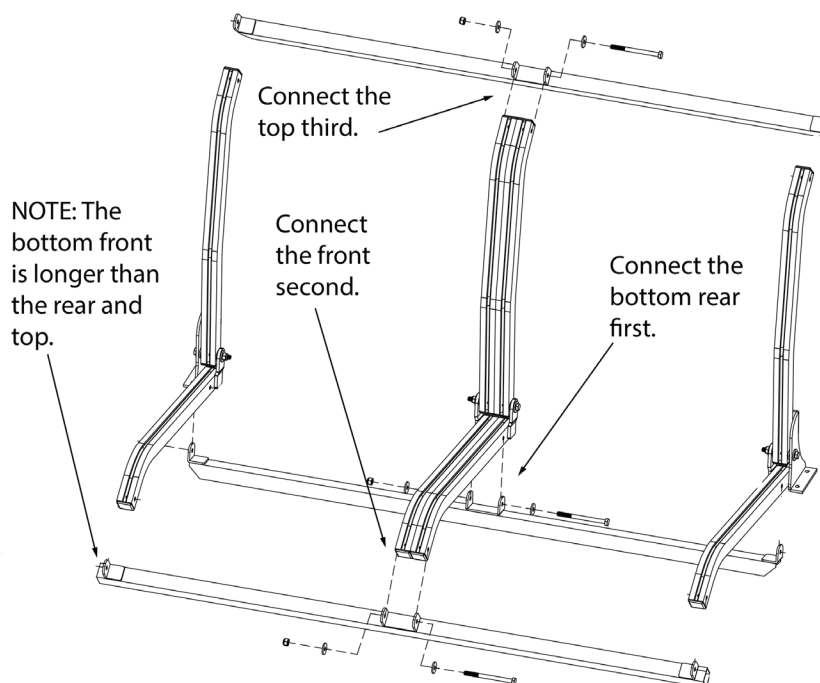
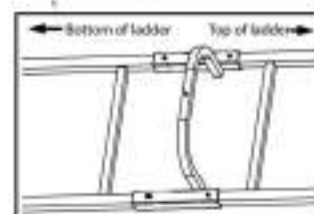

Figure 27
Figure 34-B
STEP 12: Install the bottom rear seat spreader bar by placing the middle seat frame in the center of the bracket and bolt together using one (1) $\frac{1}{4}$ " x 3-1/4" bolt, two (2) washers and one (1) nut as shown in Figure 27. Do not tighten nut yet. Next, install the bottom front seat spreader bar by placing the two (2) middle seat frames in the center of the bracket and bolt together using one (1) $\frac{1}{4}$ " x 3-1/4" bolt, two (2) washers and one (1) nut as shown in Figure 27. NOTE: This spreader bar is longer than the other two. Do not tighten nut yet. Next, install the top seat spreader bar by placing the top of the two (2) middle seat frames in the center of the bracket and bolt together with one (1) $\frac{1}{4}$ " x 3-1/4" bolt, two (2) washers and one (1) nut as shown in Figure 30. You may now tighten all the center spreader bar nuts.
Step 20 Assemble the ladder by attaching the bottom section and one middle section together using two ladder connectors and four $\frac{1}{4}$ " x 1-3/4" bolts, eight washers and four nuts as seen in Figure 34-A. **[NOTE: The ladder connectors have large holes on one side, these holes go toward the front of the ladder]** Place washers under the head of the bolts and under the nuts. After all four of the bolts are inserted you can tighten the nuts. **Now attach another middle ladder section to the top of the other section using the ladder connector with the bridge support U brace welded to them, the U shaped brace goes toward the top of the ladder as seen in Figure 34-B with four $\frac{1}{4}$ " x 1-3/4" bolts, four washers and four nuts now tighten the nuts.** Next attach the top ladder section using two ladder connectors, four $\frac{1}{4}$ " x 1-3/4" bolts, 8 washers and four nuts as seen in Figure 27-A. Now tighten all the nuts. Next attach the top two ladder connectors to the top of the ladder as they will be used to connect the ladder to the stand. Leave these bolts loose until time to attach the ladder to the stand.